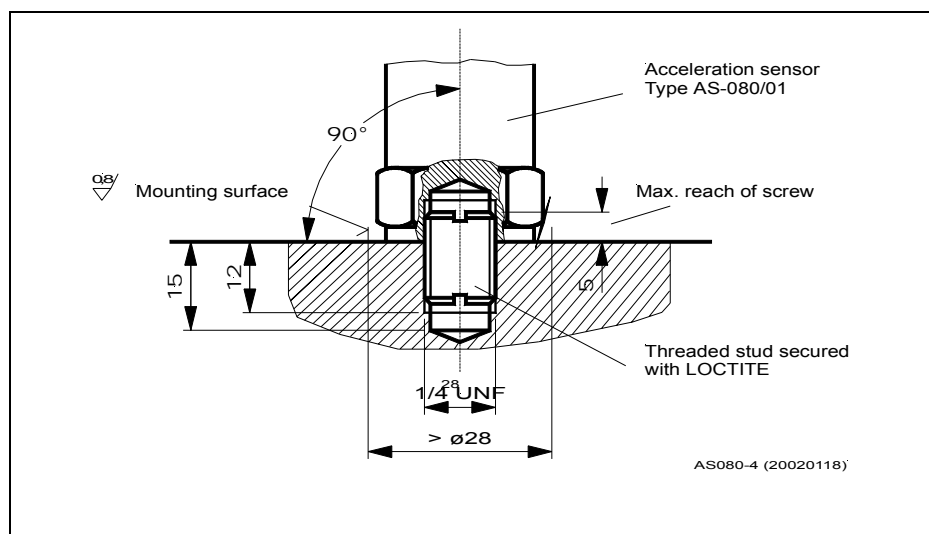

Fig. 4 Mounting
- ◆ Screw the stud into the mounting surface in accordance with fig. 4 and secure it (e.g. with LOCTITE 243 medium-bond, LOCTITE 270 heavy-duty bond).